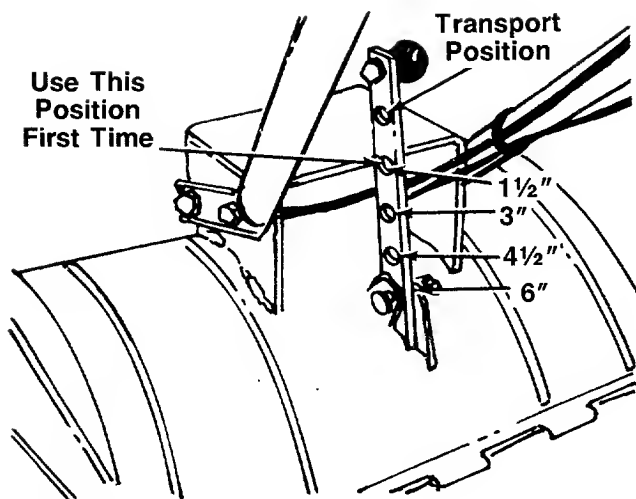
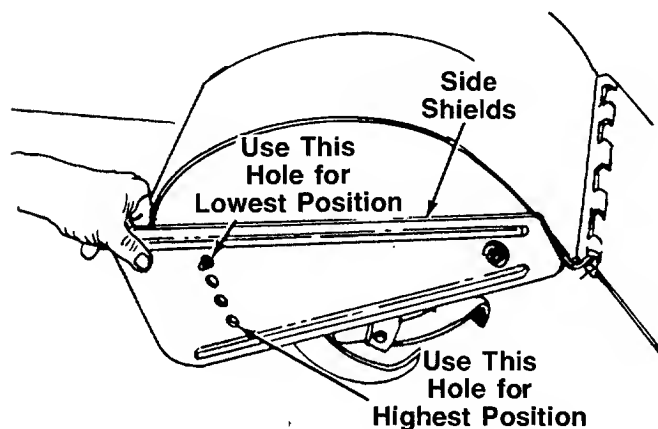

FIGURE 18.
FIGURE 19.
When operating the tiller for the first time, use the depth bar setting that gives 1½ inches of tilling depth (second hole from the top). Refer to figure 18. Use slow speed only.
Tilling depth is controlled by the depth stake which can be adjusted to five different settings. See figure 18. Adjust the side shields as shown in figure 19, as you adjust the depth stake. Be certain spark plug wire is disconnected and grounded against the engine.
1. When using the tiller for the first time, use the second adjustment hole from the top (1½" of tilling depth). See figure 18.
To adjust the depth stake, remove the clevis pin and hairpin cotter. See figure 18. Move the depth stake to the desired setting.
To adjust the side shields, remove the hex nut and belleville washer from the front and loosen the rear nut. See figure 19. Pivot the side shield to the desired position. Replace hex nut and belleville washer. Tighten securely.